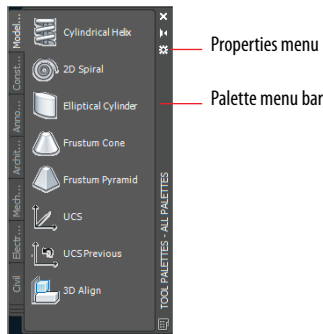

FIGURE 9.21 Click the Tool Palettes button.
1. Select the ribbon's View tab, and click the Tool Palettes button on the Palettes panel (see Figure 9.21).